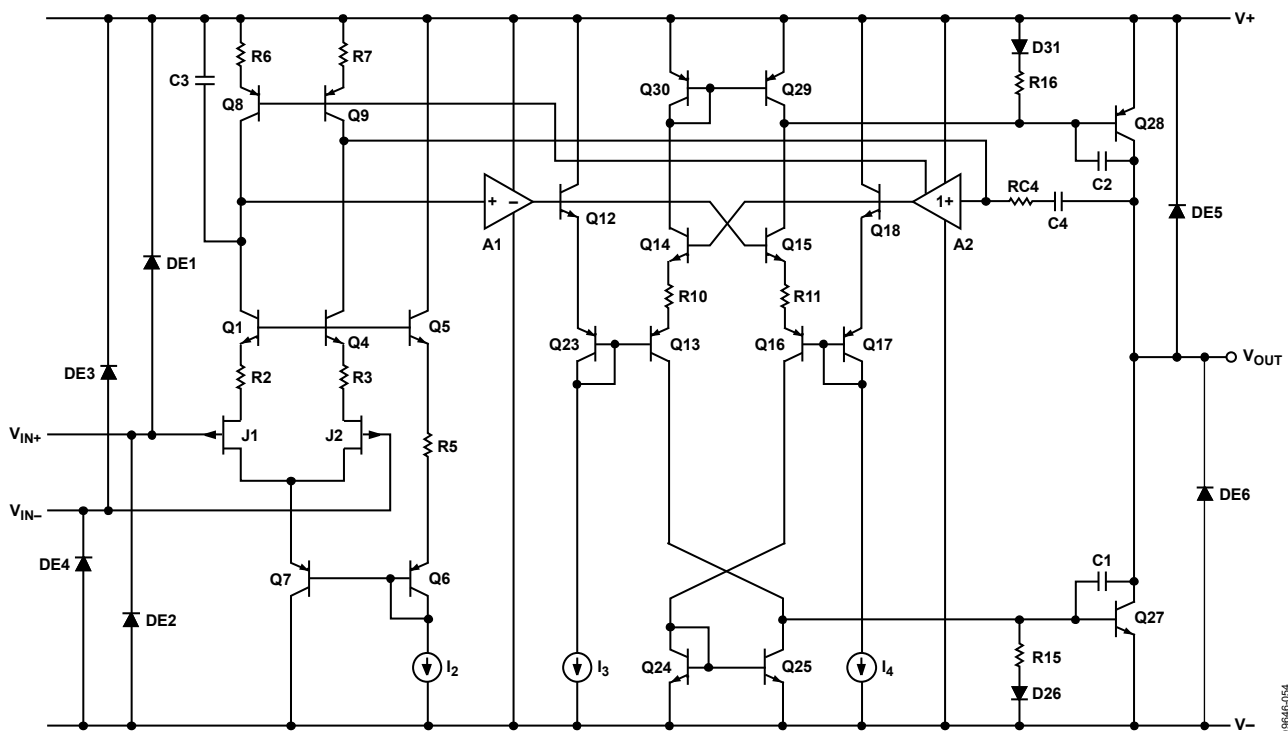

Figure 57. Simplified Schematic
The ADA4610-1/ADA4610-2/ADA4610-4 are manufactured using the Analog Devices, Inc., iPolar® process, a 36 V dielectrically isolated (DI) process with P-channel JFET technology. The unique architecture of the ADA4610-1/ADA4610-2/ADA4610-4 makes it possible to combine high precision and high speed characteristics into a high voltage, low power op amp. A simplified schematic for the ADA4610-1/ADA4610-2/ADA4610-4 is shown in Figure 57. The JFET input stage architecture offers advantages of low input bias current, high bandwidth, high gain, low noise, and no phase reversal when the applied input signal exceeds the common-mode voltage range. The output stage is rail-to-rail with high drive characteristics and low dropout voltage for both sinking and sourcing currents.